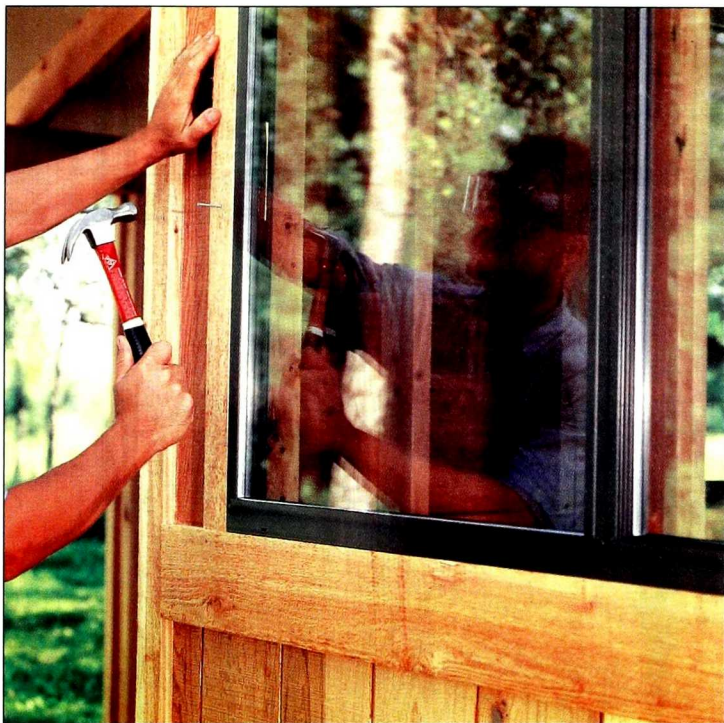
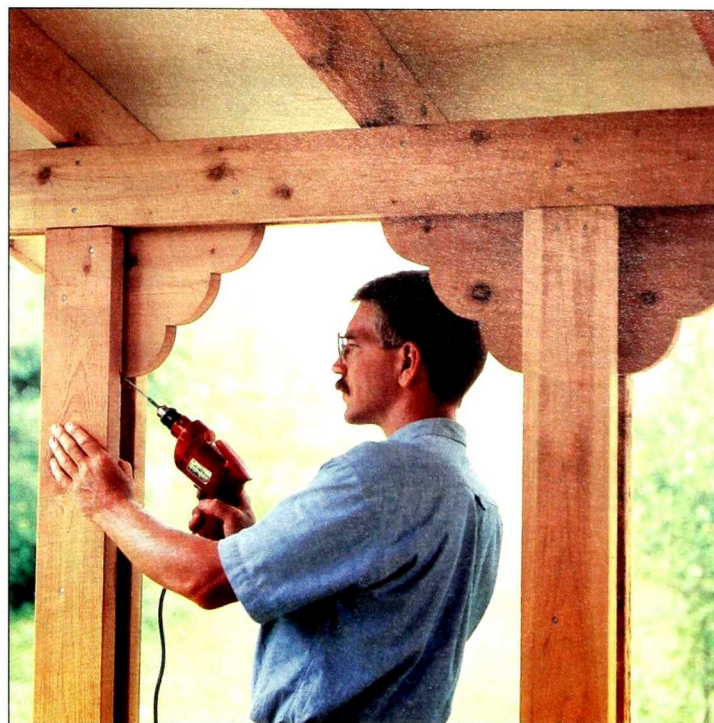

Figure 21: Install the windows and the cedar window trim. Horizontal 1x6 boards cover the siding seam and Z-flashing.
Figure 22: Fasten brackets in place to stabilize posts and beams. Paint, stain, or seal all exterior surfaces, and your shed is done.
- Install the windows, cedar corner boards, and horizontal 1x6s (Figure 21). The curved brackets (Figure 22) are both decorative and structural — they brace the eave posts and beams. You can change the bracket design, but be sure you leave some form of solid triangle between post and beam.